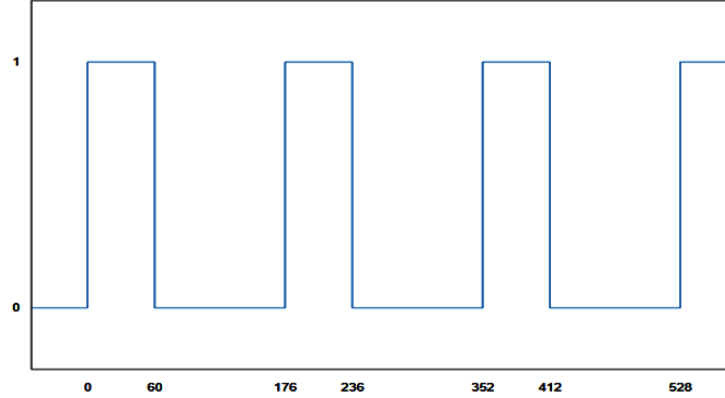

Figure 5: Output=1 for 60ms and 0 for 116ms and the total period=176ms
2. **SPD= 2**, in this case our output should have a rotation speed of 1000RPM, to obtain that speed we need to have V_{avg} equal to 75V, by substituting $T=176$ in the equation, $V_{avg} = \frac{220 * t_{on}}{T} = 75$ we obtain $t_{on}=60$ and since each interrupt is 4ms long then we need to set TMR2VAR to 15 to get the 60ms ($15*4=60$), after the 60ms is done TMR2 will be disabled and TMR0 will be enabled for 116ms to continue the 176ms cycle, to obtain the 116ms delay we need to set TMR0VAR to 29 ($29*4=116$), as in Figure 5.